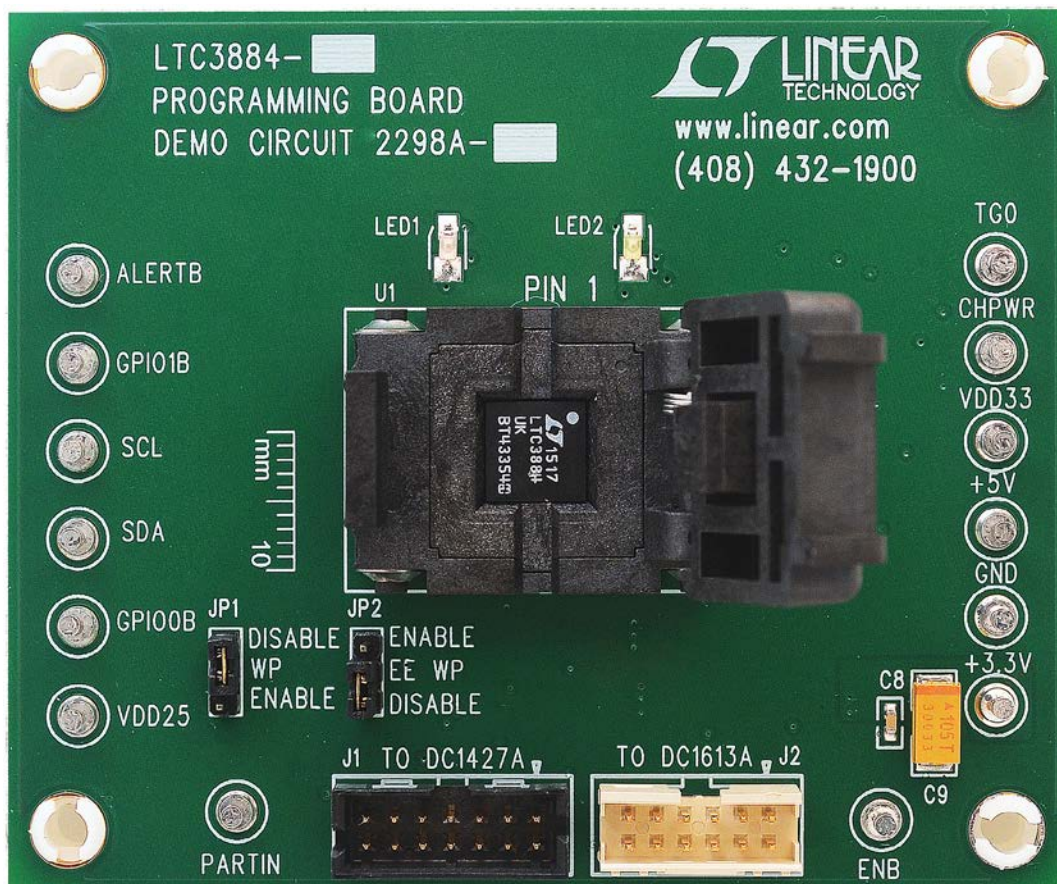

Figure 2. Proper Measurement Equipment Setup
2. Open the lid of the socket. Verify there is an IC inside. See Figure 2.